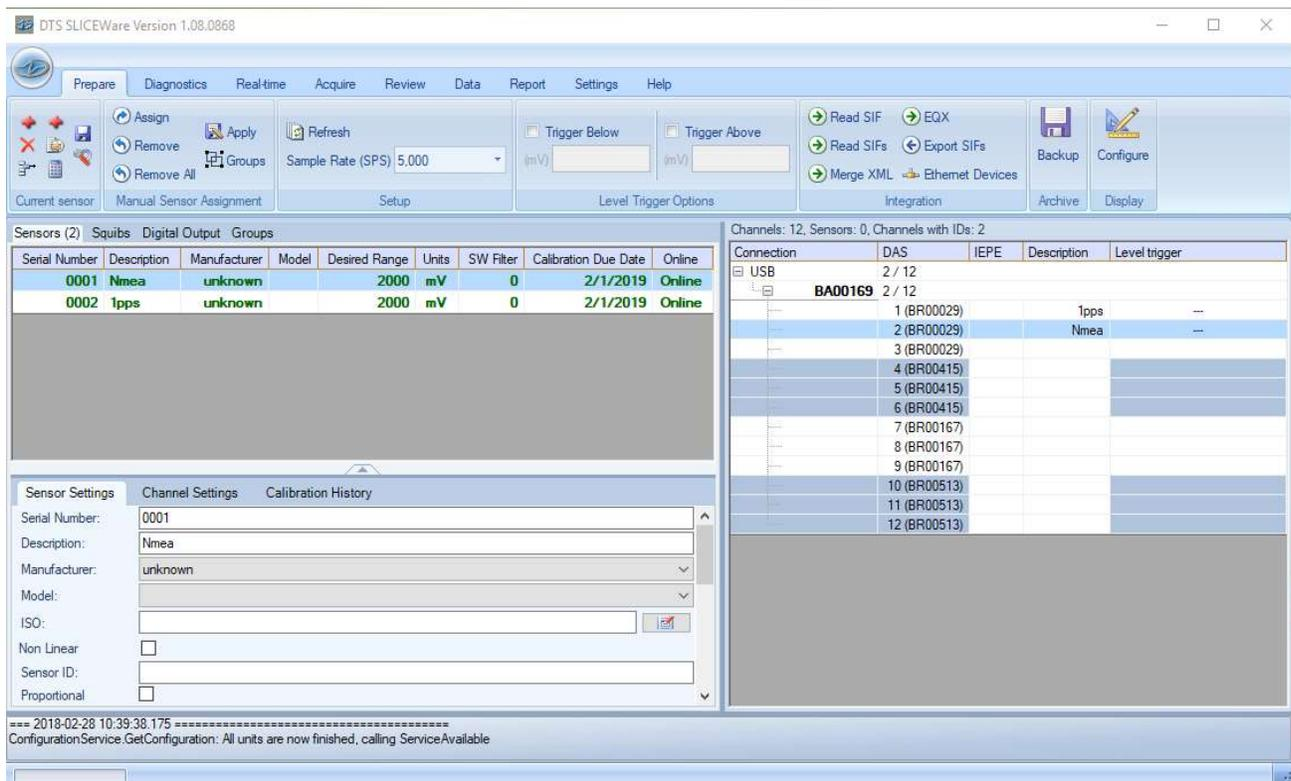

Figure 6: SLICEWare Sensor Channel Location
4. Configure and assign the 1PPS and NMEA inputs to the DAS as sensors to the following channel locations (Figure 6 below provides a screenshot of the position of these sensors in the SLICEWare Prepare tab):
NOTE: The channel locations depicted in Figure 6, above, are achieved by connecting the GPS sensor inputs to the Channel 1 (1PPS) and Channel 2 (NMEA) inputs on the Bridge slice immediately above the Base slice in the DAS system.